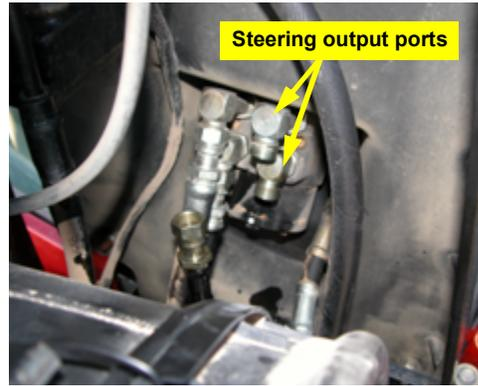

Figure 3a: Steering output ports, steel line fittings removed
- a. Locate the tractor steering orbital in front of the cab, just below the windshield. The two lines coming out of the left side of the steering orbital are the steering output lines and are stamped **R** and **L** on the casting. Disconnect the steel line fittings from the steering orbital (Figure 3a).